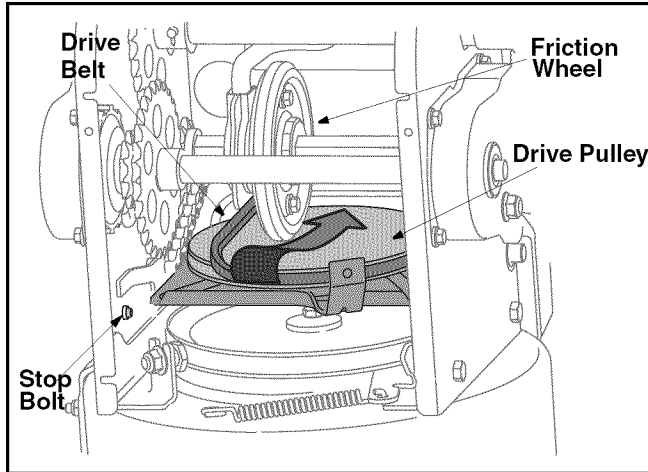

Figure 18
- Back out the stop bolt to create sufficient gap between the friction wheel disc and the drive pulley. Pull the drive belt from around the drive pulley and clear it off the friction wheel disc. See Figure 18.